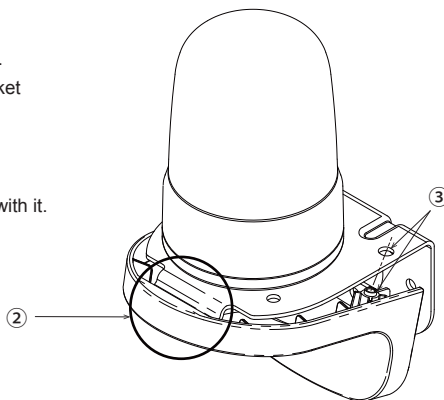

Figure 1
- ① Remove the accessories attached to the Wallmount Bracket Cover.
- ② Insert the Wallmounting Bracket Cover into the Wallmounting Bracket as shown in Figure 1.
- ③ Align the Mounting Holes on the Wallmounting Bracket and the Wallmounting Bracket Cover.
- ④ Secure the Wallmounting Bracket Cover with the screws provided with it.